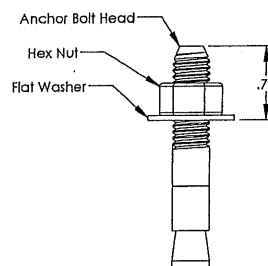

Figure 2
6. Assemble the flat washer and hex nut as shown in Figure 2. Make sure the flat washer is at least 3/4" from the anchor bolt head.